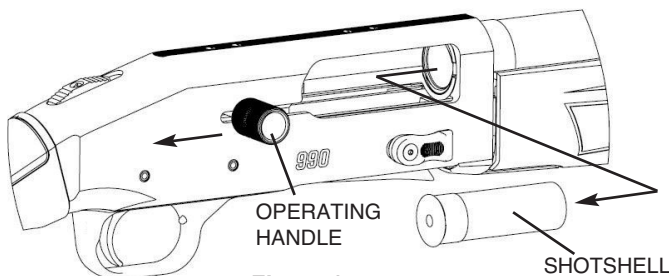

Figure 9
5. With the magazine tube empty, turn the firearm so that the trigger guard is facing downward, keeping the muzzle pointed in a safe direction, pull the operating handle fully rearward (Figure 9). This will eject the shotshell from the chamber of the firearm and lock the action in the “OPEN” position.